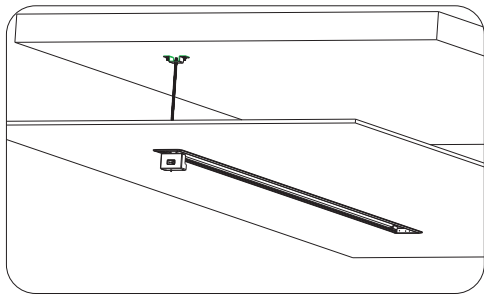

Figure12
5. Please stay the screen in the opposite direction, and fix the left and right hanging board on the screen using M6 screw and nut (figure 12).